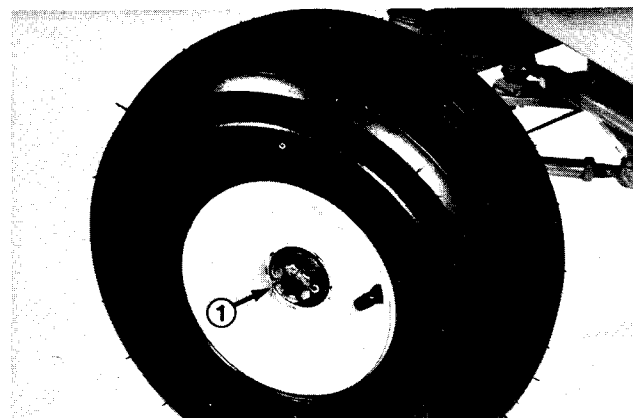

Figure 5
3. Rotate the wheel by hand and tighten the slotted nut (Fig. 5) until the bearing binds SLIGHTLY. Then, loosen the nut until the nearest slot and hole in the spindle line up. Reinstall the cotter pin to retain the slotted nut in place. NOTE: The correct end play of the adjusted assembly is .002 - .005 inches (.051-.127 mm).